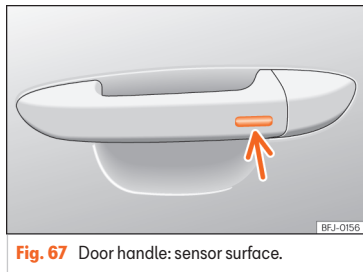

Fig. 67 Door handle: sensor surface.
- **OR:** using the Keyless Access system (only locking): Press and hold the locking sensor surface >>> Fig. 67 (arrow) on the door handle for several seconds to close the windows and the sunroof. If you release the sensor surface, the closing movement stops.
Press and hold the locking sensor surface >>> **Fig. 67** (arrow) on the door handle to close the sunroof. If you release the sensor surface, the closing movement stops.